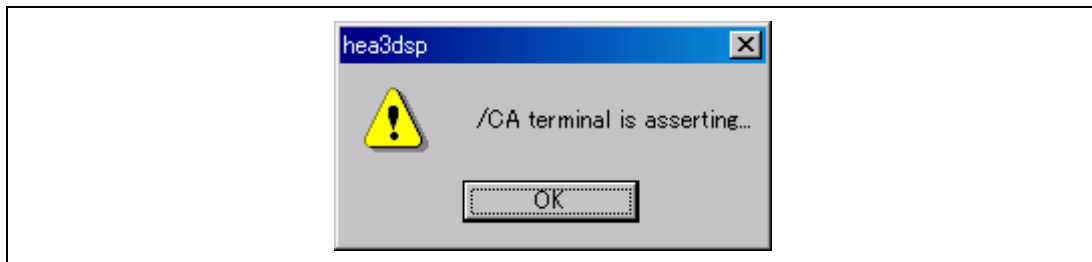

Figure 2.6 Message Box for Entering the U Standby State
1. In the software standby mode, when the /CA pin is asserted, the emulator enters the U standby state and the message box shown in figure 2.6 is displayed. To cancel the U standby state, be sure to end the message box before asserting /RESETP from the user system.